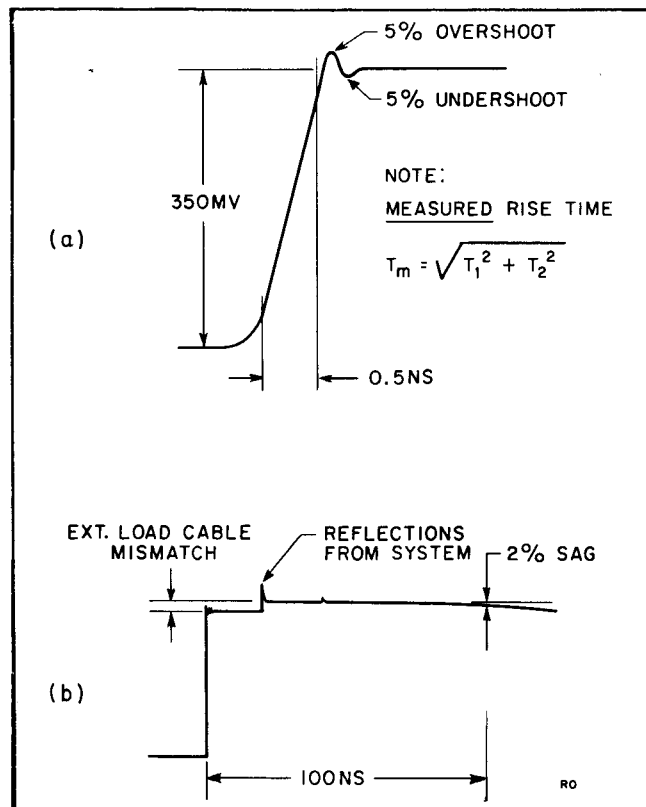

Figure 5-2. Typical Pulse Characteristics
(2) Overshoot and Undershoot must be 5% or less of the pulse amplitude.
(3) Top Droop, after overshoot and undershoot, must be 2% or less, of the pulse amplitude, for the first 100 ns of pulse length.
(4) Typical pulse characteristics are shown in fig.5-2.